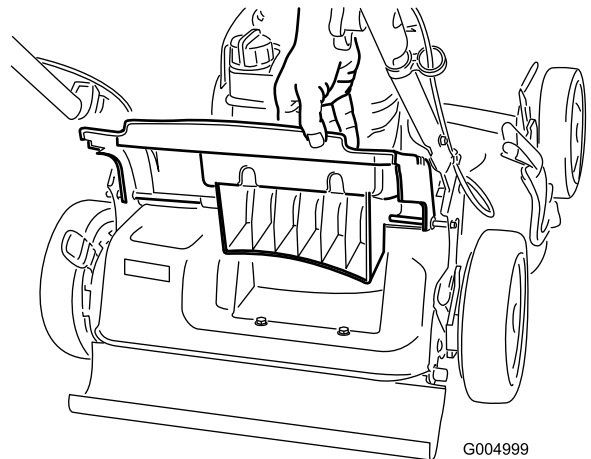

Figure 14
1. Raise and hold up the rear door (Figure 14).